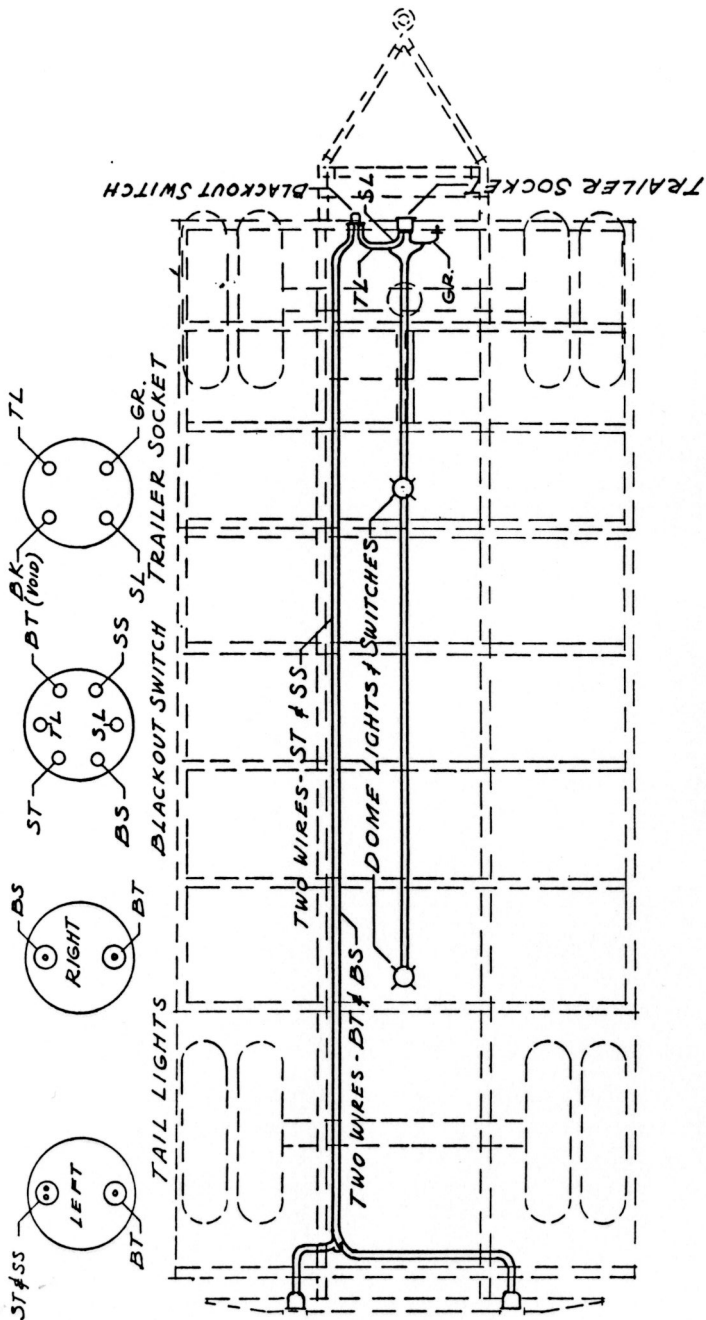

Fig. 7. Wiring diagram
a. *Wiring.* The general electrical circuit diagram shown in Fig. 7 is illustrative of all circuits used on this vehicle. With this diagram any of the various circuits may be traced, and necessary wire replacements made. All electrical units are shown in their relative positions.
d. *Failure of Lights.* Insufficient current to operate the lights may be due to poor connections in either the socket of the towing vehicle or in the trailer. Clean out all sockets and tighten all connections and grounds. Check the socket blades for corrosion and dirt. If necessary, the blades may be scraped and sandpapered clean. If lights still fail, and there is sufficient current, check each light unit singly, and check all connections. Inspect the wiring; if broken, splice and tape, or replace completely. (See Figs. 7, 8, and 9.)